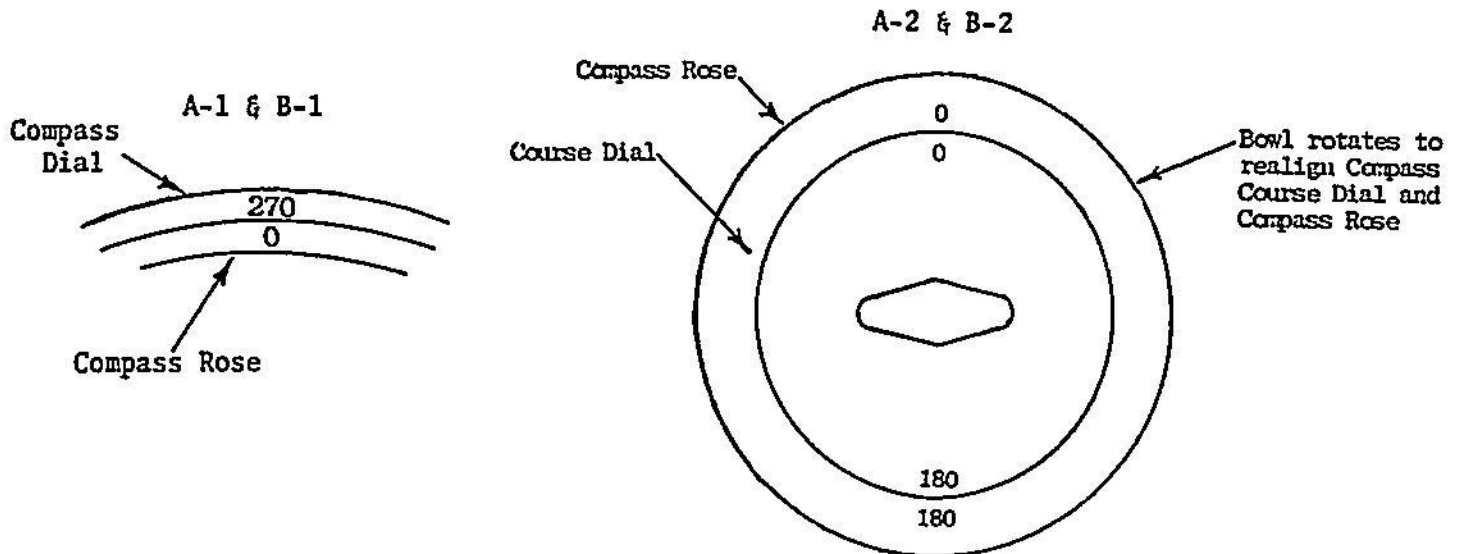

Fig. 13
STEP 31 - Rotate COMPASS DIAL SLOWLY through 360 degrees. (Fig. 13)
until Meter needle zeros. (Fig. 13, Page 13)
(Fig. 13, Page 13)
Align the inner and outer compass dials. (Fig. 13, Page 13)
STEP 35 - Rotate COMPASS COURSE DIAL 45 degrees right and 45 degrees left from where dials match. (Fig. 13)
Align the COMPASS COURSE DIAL with COMPASS ROSE. (Fig. 13)
STEP 37 - Rotate COMPASS COURSE DIAL 45 degrees right and 45 degrees left from where COMPASS COURSE DIAL and COMPASS ROSE match. (Fig. 13, Page 13)